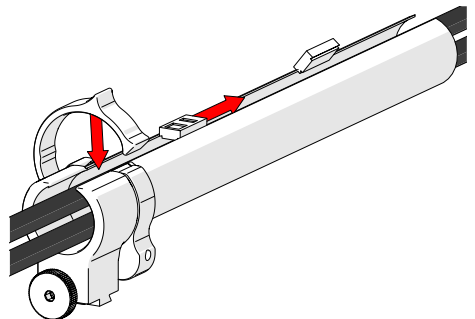

Fig. 66 - Zip up to close
2. Follow the cable placement, zipping the tube closed and closing the cable management cable latch (Fig. 66).